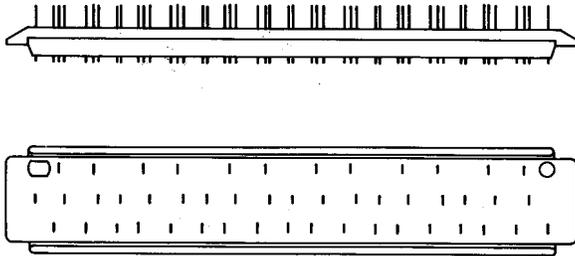

Fig. 7—507A Plug
**2.06 507A:** The 507A plug (Fig. 7) consist of 48 gold-plated blades with a plastic body. The 507A plug is arranged so that the blades will mate with the contact spring clip jacks on the terminal